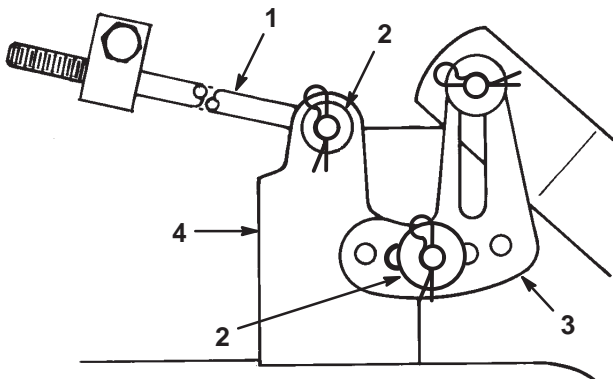

Figure 43
11. Slide the end of the long rod through the hole in the mower mount (Fig. 43). Install the washer and hairpin cotter to secure the rod in place. Repeat this step on the opposite side of the mower.
12. Mount the slotted mower leveling bracket onto the pin on the height-of-cut arm (Fig. 43). Install the washer and hairpin cotter to secure the mower. Repeat this step on the opposite side of the mower.